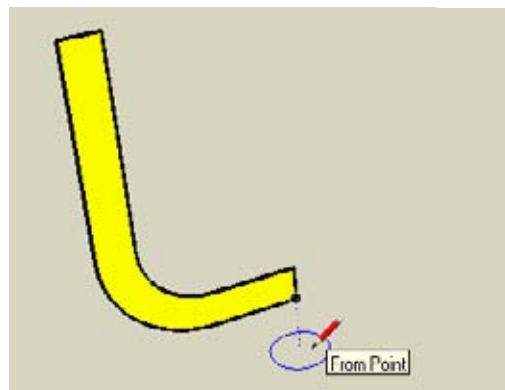

Figure 2-56
6. Follow Me sometimes breaks faces (unless the Follow Me face is a group or component), but this won't happen if the path and face are not touching. So move the mouse straight down from the inference point, and click to place the center of the circle below the Follow Me face (Figure 2-56).